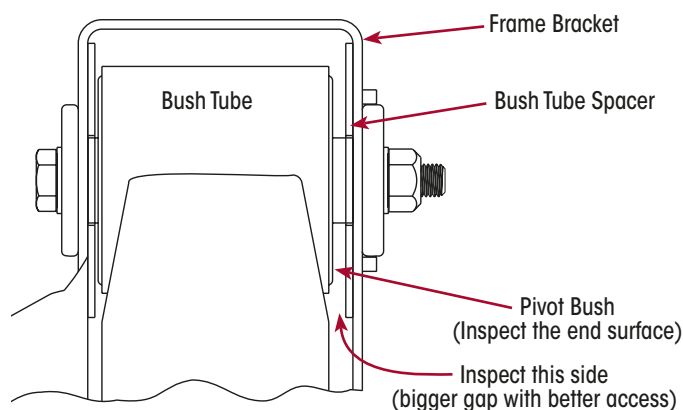

**Figure 6: Pivot Bush Assembly**
**NOTICE:** Under no circumstances should a shaker table or extended iron pry bar be used as a method to determine the functionality or serviceability of a TRI-FUNCTIONAL™ Bush (TFB™). A shaker table will merely demonstrate the ability of the TFB to absorb the primary road forces, whilst an iron bar may compress the TFB at the void area where it is designed to move. Refer Figure 6.